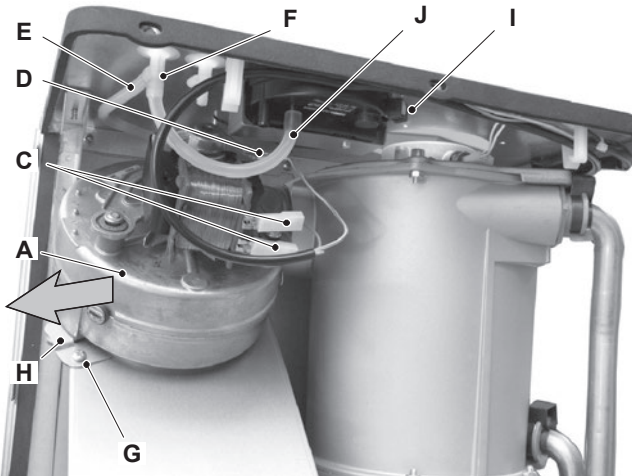

Figure 14.4
- 2 Disconnect the connectors C and the earth connection D (Figure 14.4).
- 3 Disconnect the pipe E by the pressure test point F (Figure 14.4 Figure 14.4).
- 4 Unscrew the screw G and remove the bracket H (Figure 14.4).
- 5 Remove the Fan by sliding it towards left (see the arrow in Figure 14.4).